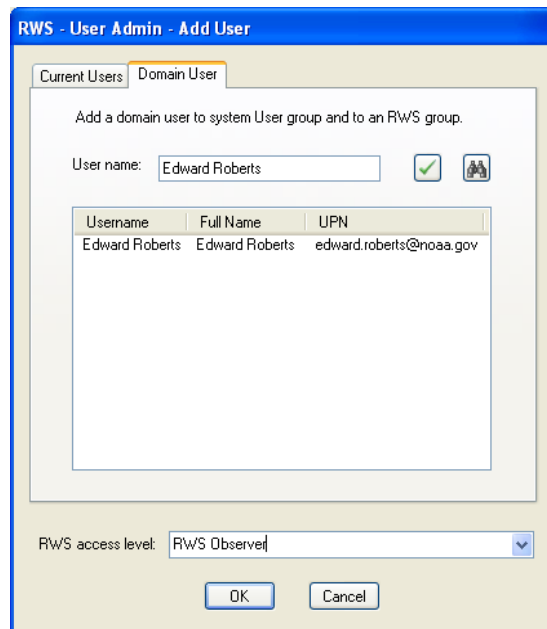

Figure B-26: RWS - User Admin - Add User Window (Example Only)
3. Select **Add** to open the *RWS-User Admin-Add User* window (Figure B-26).